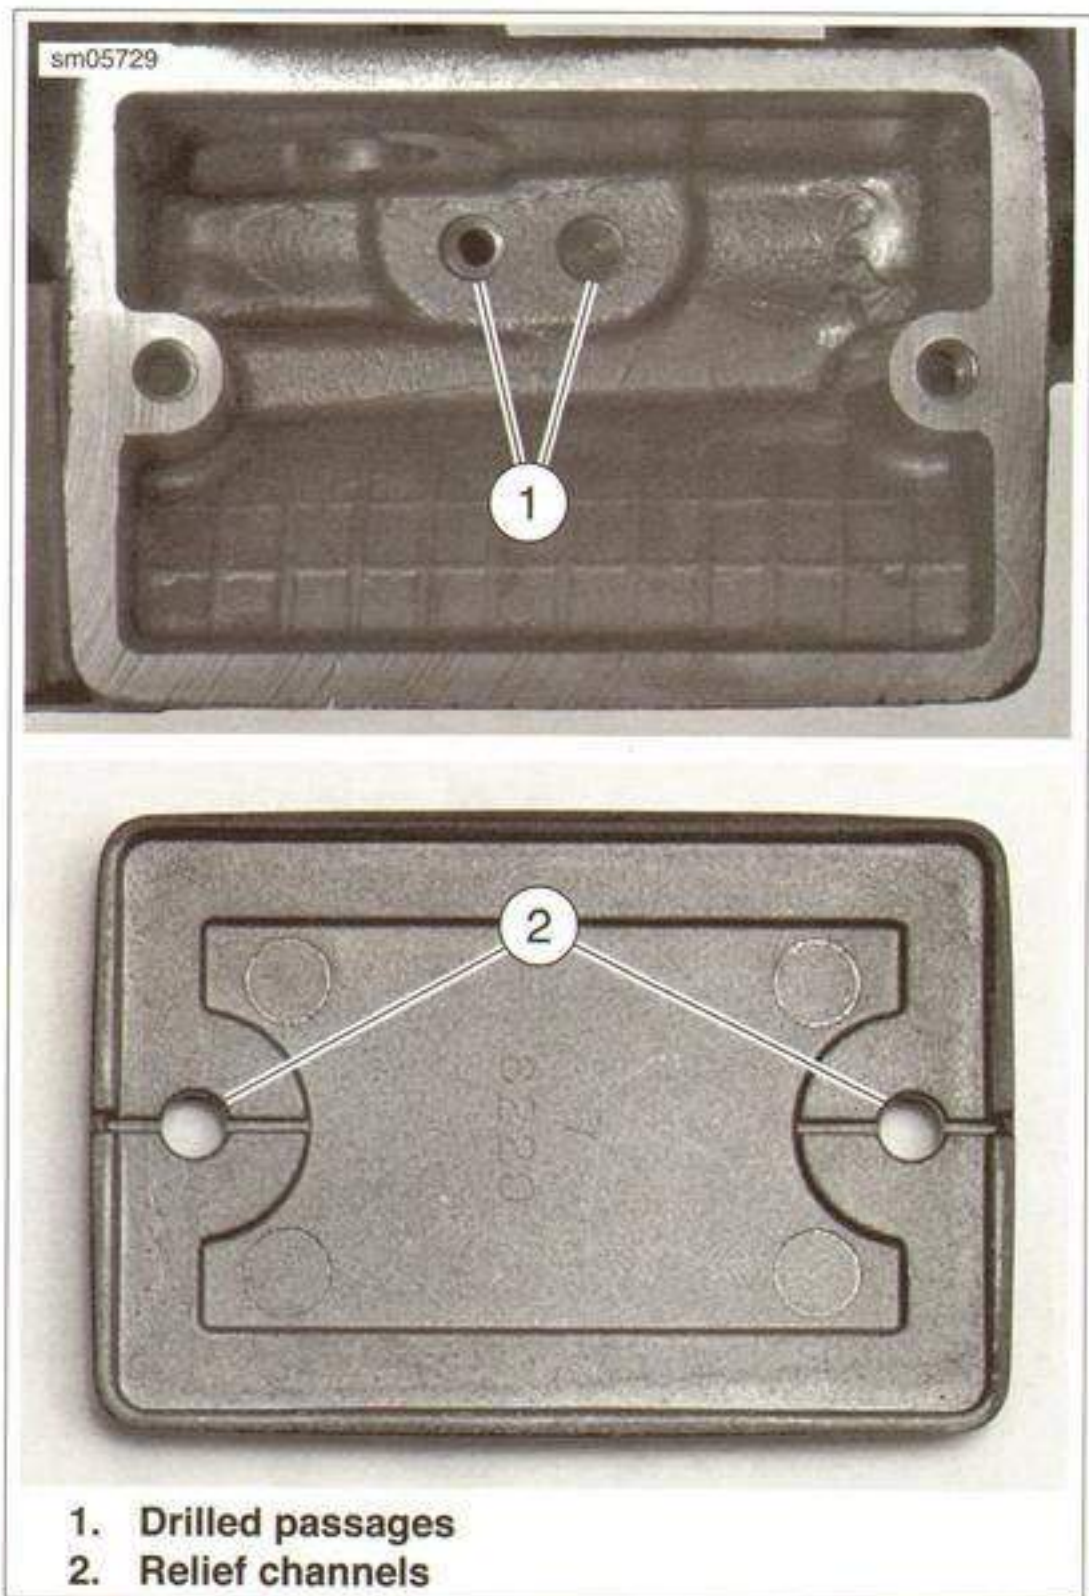

Figure 6-7. Drilled Passages and Relief Channels
See Figure 6-7. Do not use a wire or similar instrument to clean drilled passages (1) in bottom of reservoir.
7. Clean the pressure relief channels (2) in the cover.